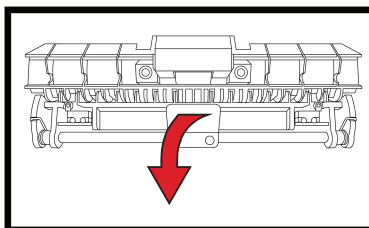

Figure 4: To open sensor block pull down on latch shown in above diagram.
NOTE: Make sure sensor block is securely back in its original position (Figure 4) before using the 8800R.
3. Position Sensors (IR) - Eight Sensors (four pairs)
5. Ultraviolet Sensor (UV) - Two Sensors
6. Magnetic Sensor (MG) - One Sensor
*Refer to Figures 4 & 5 for instructions on how to open and close the sensor block and gain access to the inner sensors.
Figure 7: Lower sensors - One MG sensor bar, four positioning sensors, one large CIS sensor bar, two UV sensors. (correspond to upper sensors shown in Figure 4).